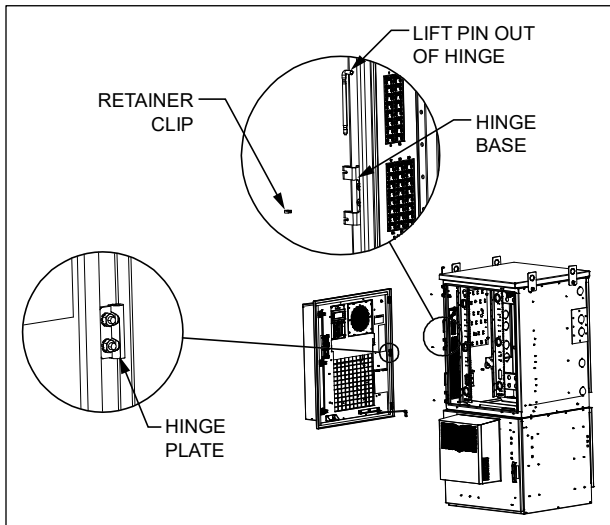

Figure 3 Remove Hinge Pins
4. Move the hinge pins upward (a hammer or mallet might be needed to move the pins). The hinge retainer clip will dislodge from the hinge when the pin is lifted (Figure 3). Save the hinge pins and retainer clips for later re-installation.
5. Remove the front door from the CUBE (Figure 3).